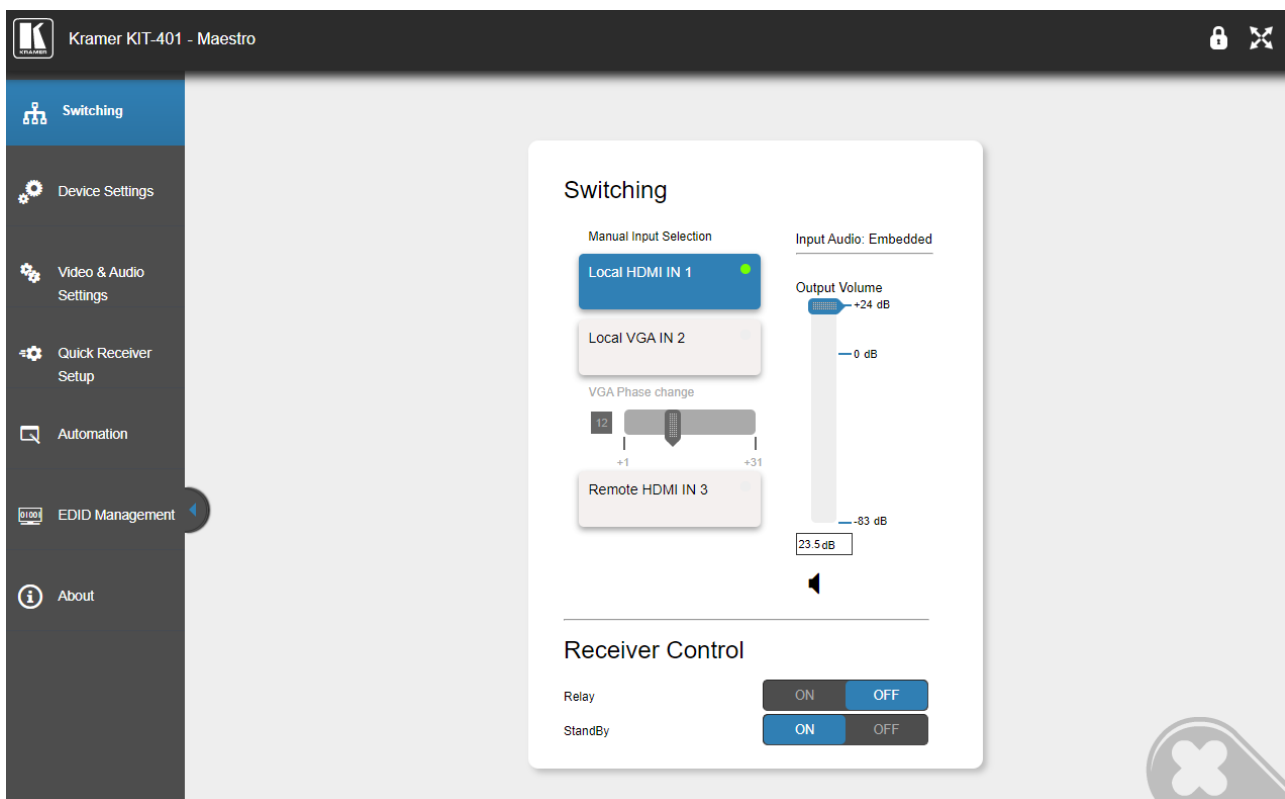

Figure 17: Switching Page with Navigation List on Left
A green dot, on an input button, indicates that it is connected to an active source, as shown in the example in Figure 17, for HDMI IN 1.
1. In the Navigation pane, click **Switching**. The Switching page appears (see Figure 17).
1. In the Navigation pane, click **Switching**. The Switching page appears (Figure 17).